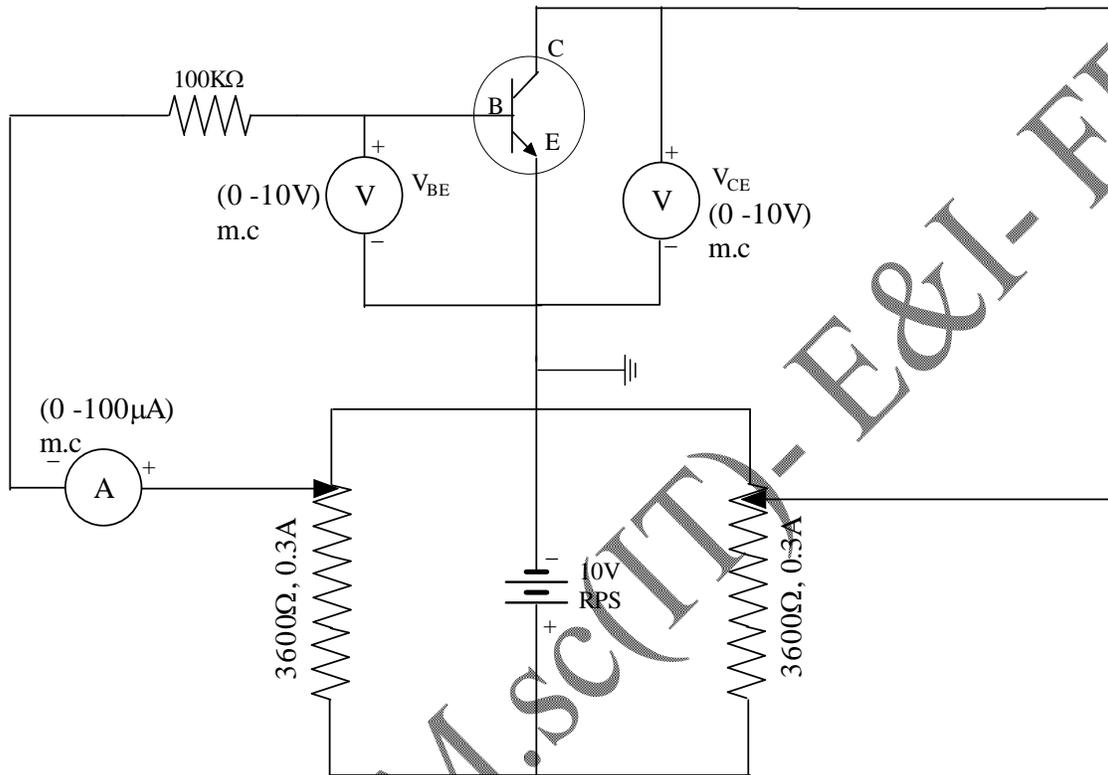

Figure.1 Input Characteristics
Figure.1 shows a transistor in common emitter configuration. From Figure.1 it is clear that I_B & V_{BE} are the input quantities and I_C & V_{CE} are the output quantities. Study of input quantities keeping V_{CE} as constant gives input characteristics.
1. Give the connection as shown in Figure.1